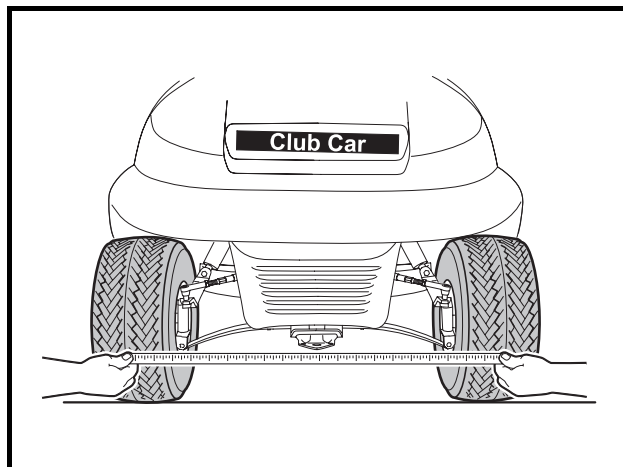

Figure 7-16 Check Toe-In
3. Measure the distance between the marks on the rear-facing surfaces of the tires, and then roll the vehicle forward one and one-half wheel revolution until the marks appear on the forward facing surfaces of the tires at about the same height from the floor (**Figure 7-16, Page 7-11**).
4. Measure the distance between the marks on the forward-facing surfaces of the tires (**Figure 7-16, Page 7-11**).